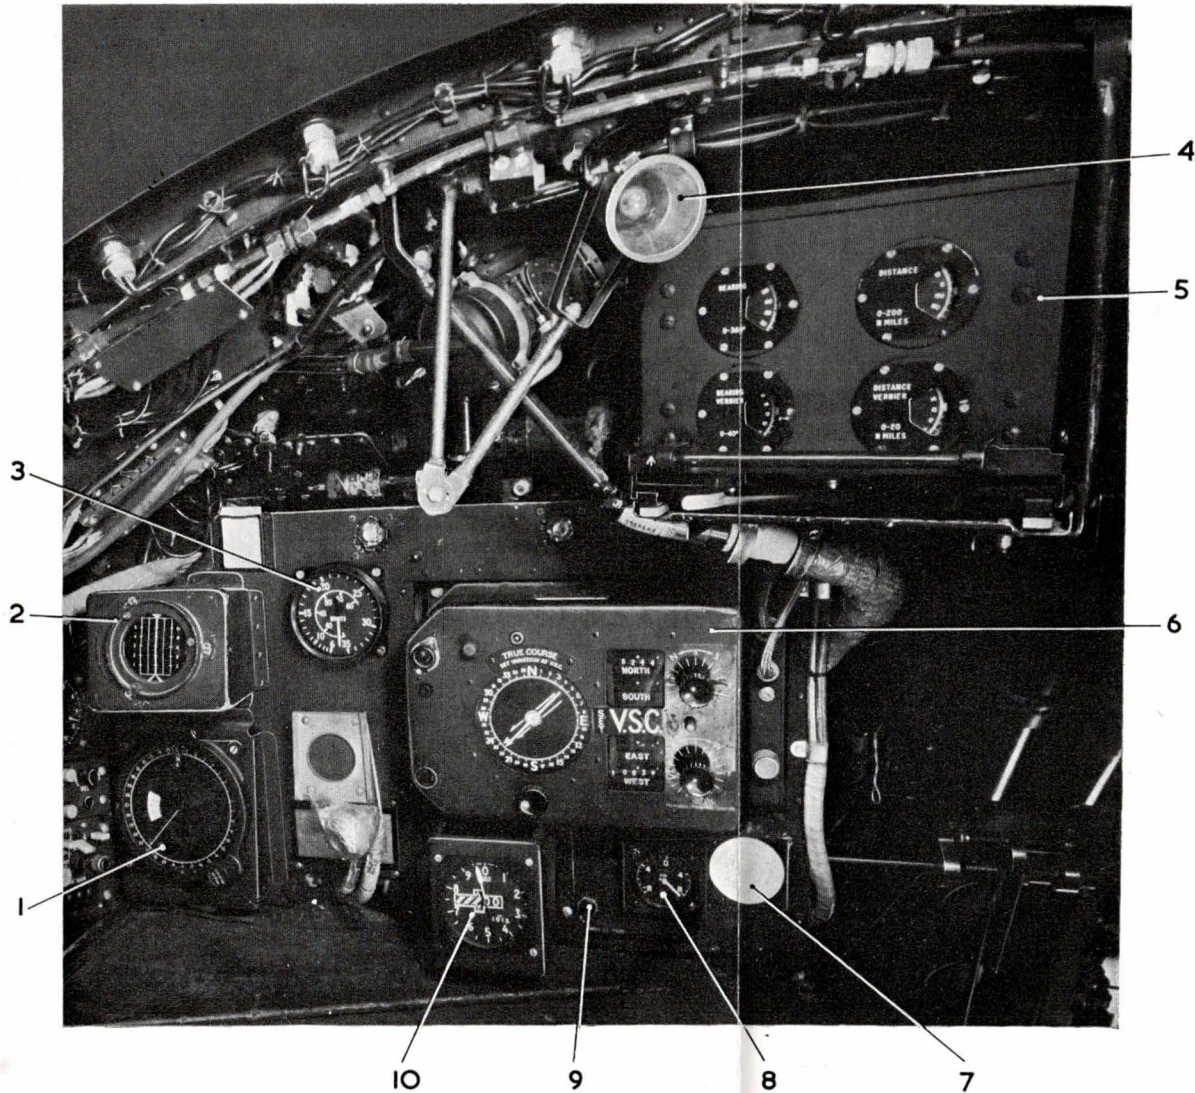

Fig 6 Navigator's Station, Forward View
**Key to Fig 6 Navigator's Station, Forward View**